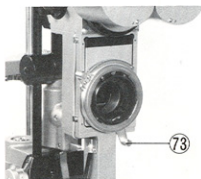

Fig. 68
- (b) Move the attachment fixing lever73, on the bottom of the camera attachment mount (of the photographic attachment), to the left, insert the photographic attachment into the box frame opening below the binocular microscope and then move the fixing lever to the right, which will fix the attachment securely. (See Fig. 68)